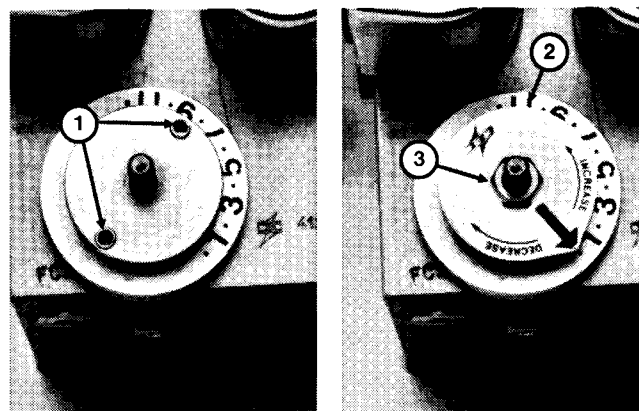

Figure 89
4. Install two (2) balls and two (2) springs into detent plate. With valve turned completely clockwise in closed position, install indicator plate, aligning arrow with No. 1 mark on locating plate, then tighten jam nut. Make sure valve operates through full range of operation with detents at each mark on indicator plate (Fig. 89).